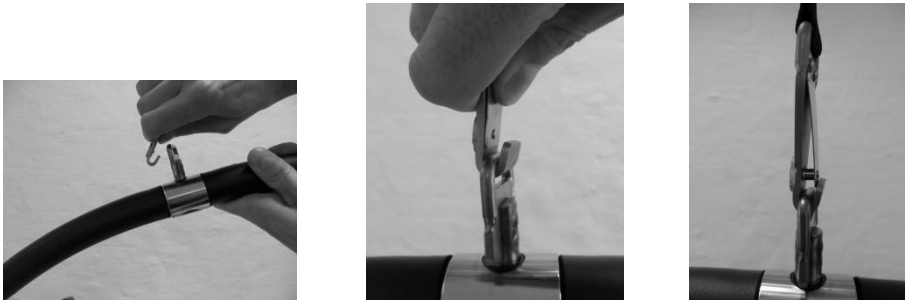

Fig. 1.7C
The spring loaded hook is connected to the cart in the track. Position the hook in the cart and pull downwards to fix. Ensure that the hook is safely locked. (see fig. 1.7C)
The spreader bar is lifted up to the strap and the spring loaded hook of the strap drawn sideways onto the ring. Pull downwards until the hook is fixed on the spreader bar ring. Ensure that the hook is safely locked. (See fig. 1.7C)
- 2) The lifting strap is fitted with a bracket that fits onto the spreader bar. The strap is brought sideways onto the spreader bar and pulled downwards to fix. (See fig 1.7C)